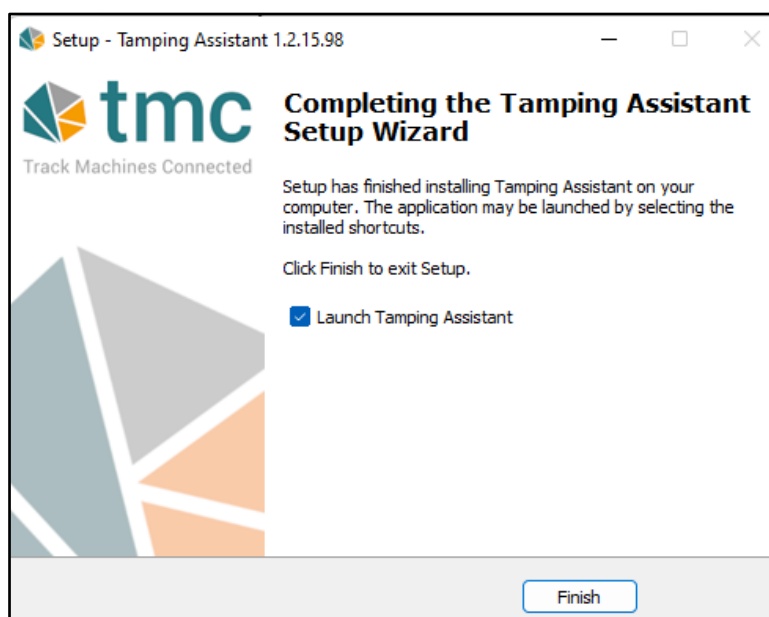

Figure 23. Installation is Completed
9. The setup display confirms that the installation has been successfully completed (Refer **Figure 23**).